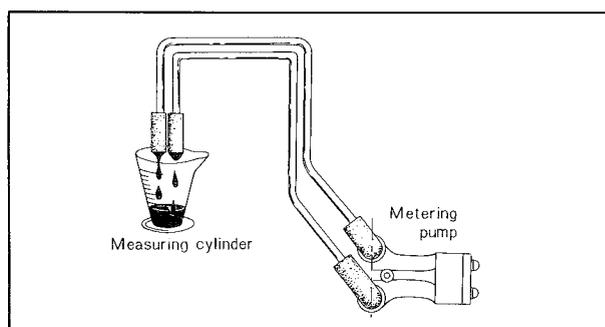

Fig. 2-16 Checking oil discharge
4. Connect a tachometer. Run the engine at **2,000 rpm** and put the oil hoses in the measuring cylinder as shown in Fig. 2-16.